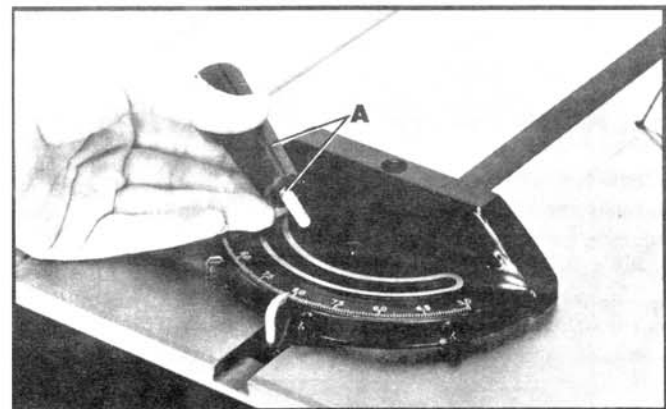

Fig. 49
Insert the miter gage bar into the miter gage slot and assemble the washer and lock handle (A) Fig. 49, to the miter gage bar as shown.